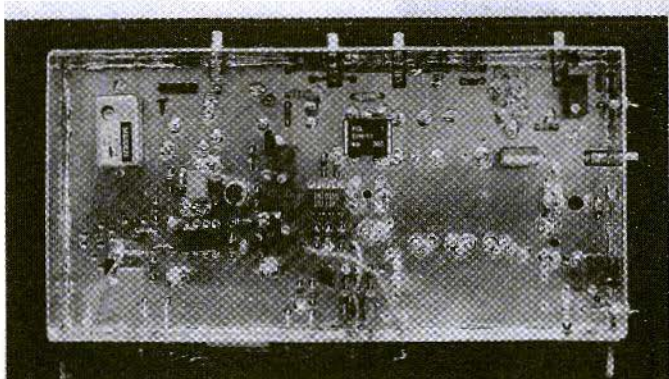

Fig.9:
- 2.2mm bores are provided for the MMIC's: MS 0785 / MAR3, and 4.0mm for MSA1104 (Fig.9);